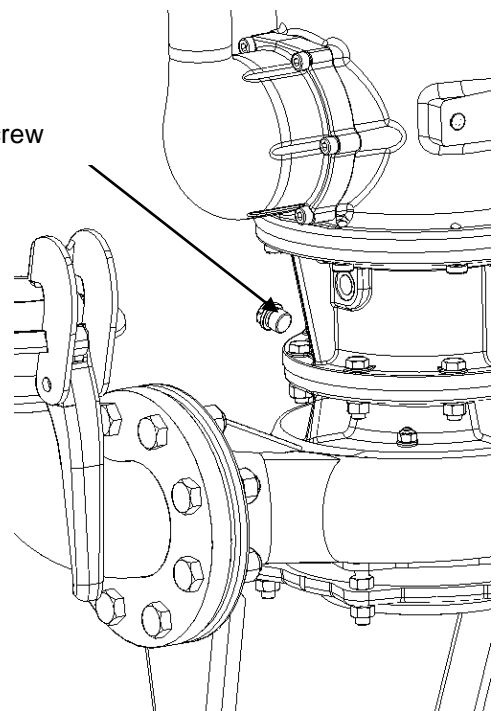

Figure 6
- Bring the submersible motor pump into a vertical position (see figure 6).